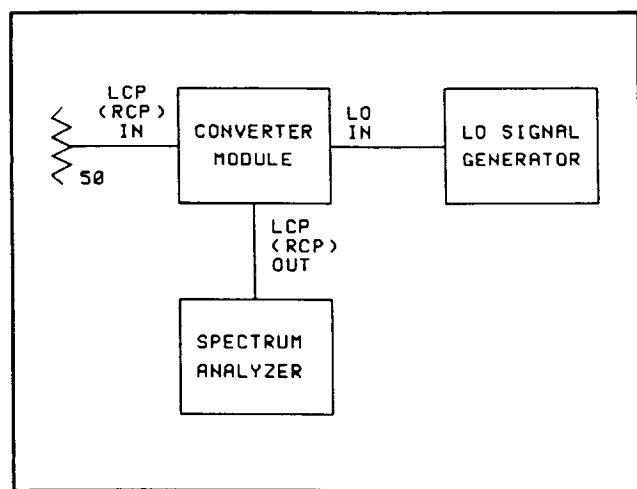

Figure 11 Setup for Spurious Signals Test
1. Connect the equipment as shown in Figure 11 below. Set the center frequency to 750 MHz and the span to 1500 MHz.